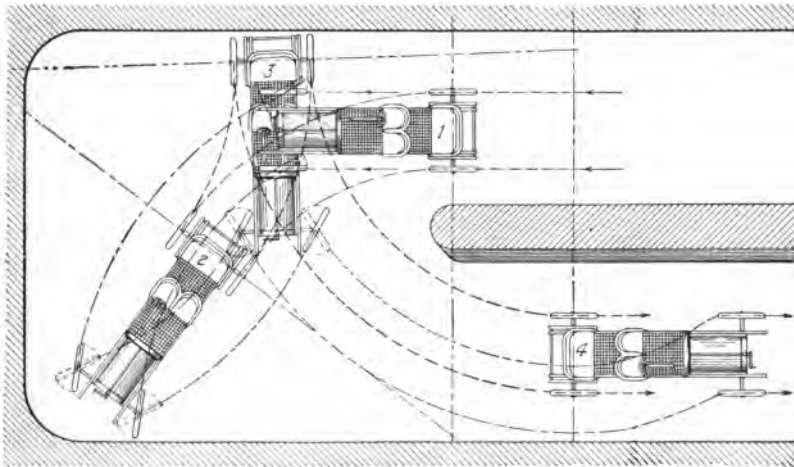

Fig. 44. Maneuvers in Getting Out of a Blind Court
**Blind Courts Give an Opportunity for Skill.** A driver who is skillful in maneuvering around has an excellent chance to show his skill, when caught in what is called a *blind court*. This is, as shown by Fig. 44, a court or street which has but one entrance and exit, the two corresponding. To get out it is necessary to back, come forward again, back and forward, until the car is moved around in the narrow court so as to be able to proceed in the reverse direction. In the figure, the first position is marked 1. From this, the driver perceiving his situation, turns as sharply as possible to second position 2. In stopping, the wheels are warped around in the opposite direction as far as possible, before moving the car—bad practice